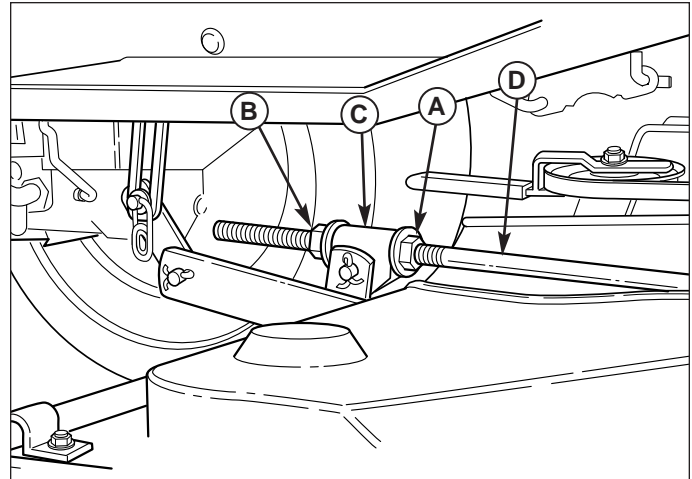

Figure 28. Front-To-Back Leveling - 40" Models
8. See Figure 28. To raise front of mower deck, loosen front nut (A) and turn rear nut (B) against bracket (C).
9. To lower front of mower deck, loosen rear nut (B) and bracket (C) will move backwards to lengthen rod.
10. Re-check measurement before tightening front nut (A) against bracket.